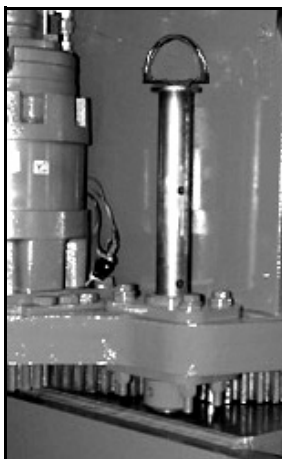

Figure 2-1: Locking Pin
3. Retract locking pin (Figure 2-1).